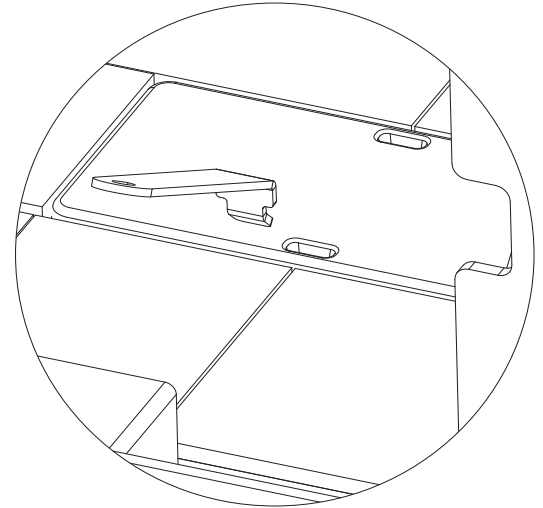

Figure 20.4
Insert Access Cover Handle handle into slot of ARS Cover to remove ARS Cover for cleaning ash out of firebox (**Figure 20.4**).
2. Install ARS Spacer on left hand side with one bolt using Phillips head screwdriver (**Figure 20.4 on page 20**).